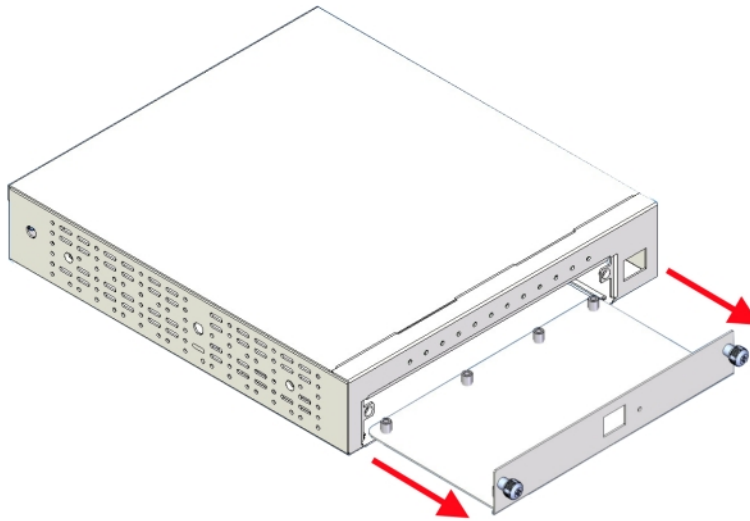

Fig. 7: Removing the tray from the slot
- (4) Remove the screws and gently pull the tray out of the slot. Please see *Fig. 7* on page 9.